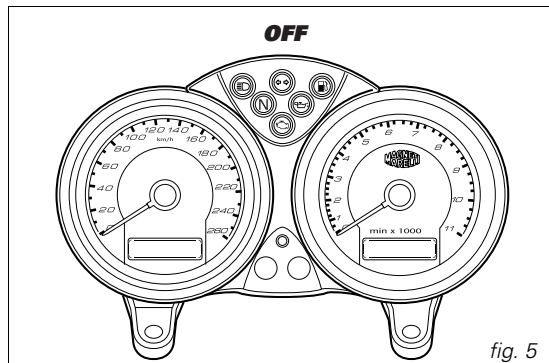
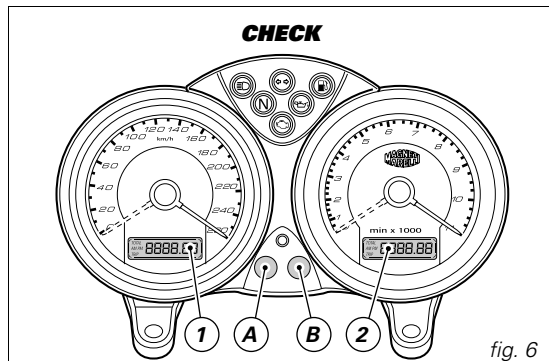

fig. 5
fig. 6
When the key is turned from **OFF** to **ON**, the instrument panel runs a **check-up** routine of all instruments (pointers, display, lights) (fig. 5 and fig. 6).
Press the button (B, fig. 6) with the key turned to **ON** to cycle through trip meter and odometer indication.
Hold down button (B, fig. 6) for more than 2 seconds in **TRIP** mode to reset the display (LCD 1).
Press button (A, fig. 6) with the key turned to **ON** to display the clock and coolant temperature.
Hold down button (A, fig. 6) for at least 2 seconds.
To select **AM/PM**, press button (B, fig. 6). Press button (A) to confirm and enter hours setting mode. Set the hours by pressing button (B) repeatedly. Press button (A, fig. 6) to move enter the minutes setting mode.
Press button (B, fig. 6) within 5 seconds with the key turned to **ON**; each time the button is pressed the backlighting will vary.